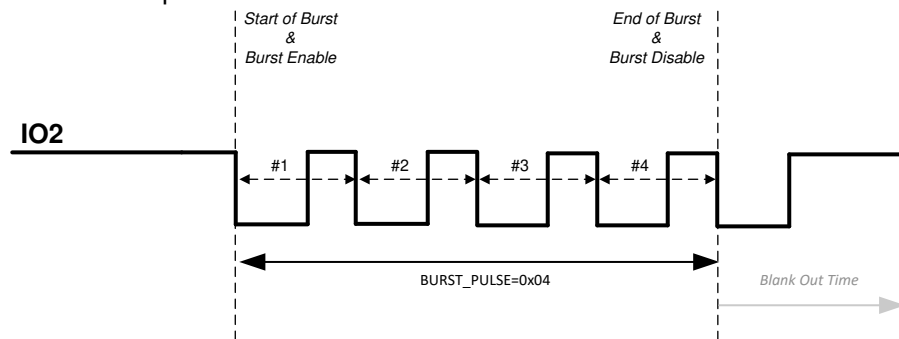

图 7-4. IO_MODE 3 Description
- **IO_MODE = 3:** In this mode, burst enable and start of burst are both triggered by the falling edge of IO2. TI recommends that IO2 pin is kept pulled up to VDD for this mode. The device then expects a clock at IO2 pin to generate pulses on the OUTA/OUTB pins (see 图 7-4). The number of pulses are counted by counting falling edge to next falling edge transitions on IO2 once the start of burst is triggered. End of burst sequence is signaled when the number of pulses defined in BURST_PULSE are sent. After end of burst, a blank-out timer interval defined by the DRV_PLS_FLT_DT register is started to prevent triggering of a new start of burst in the event if the IO2 pin is still toggling. After the start of burst, the state of OUTA and OUTB pins are determined by IO1 and IO2 pins.